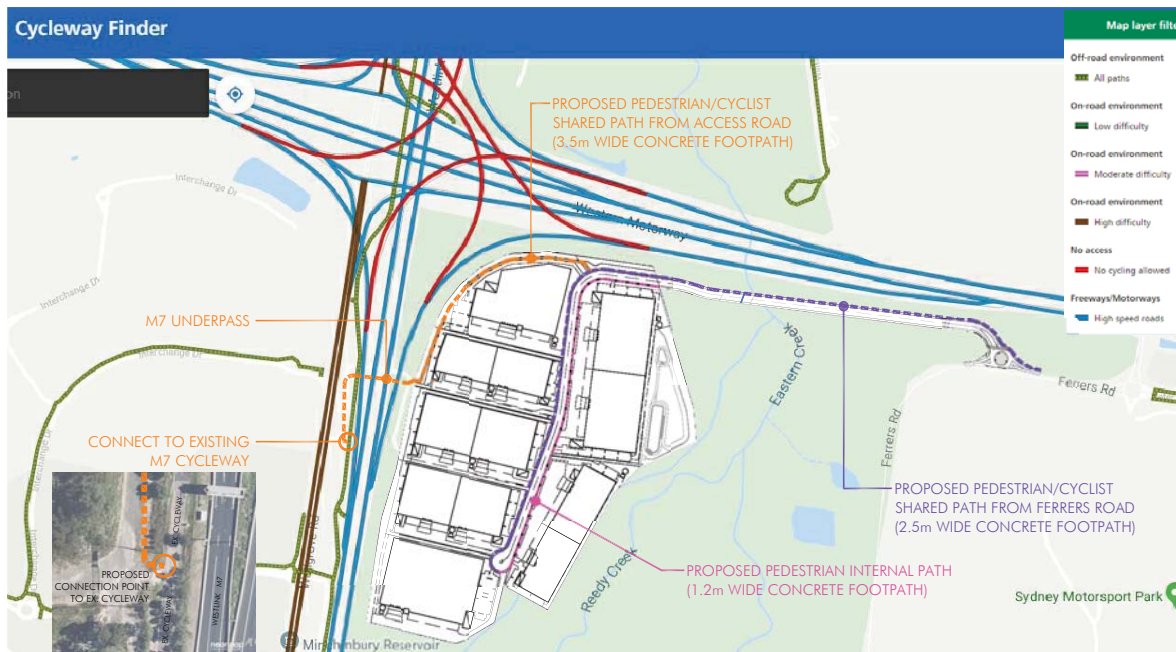

Figure 4: Pedestrian / Cyclist Access & Circulation (background source: Cycleway Finder - NSW Transport - RMS)
- Connect with existing bicycle and pedestrian networks via shared footpath to promote connectivity and permeability (Figure 4)